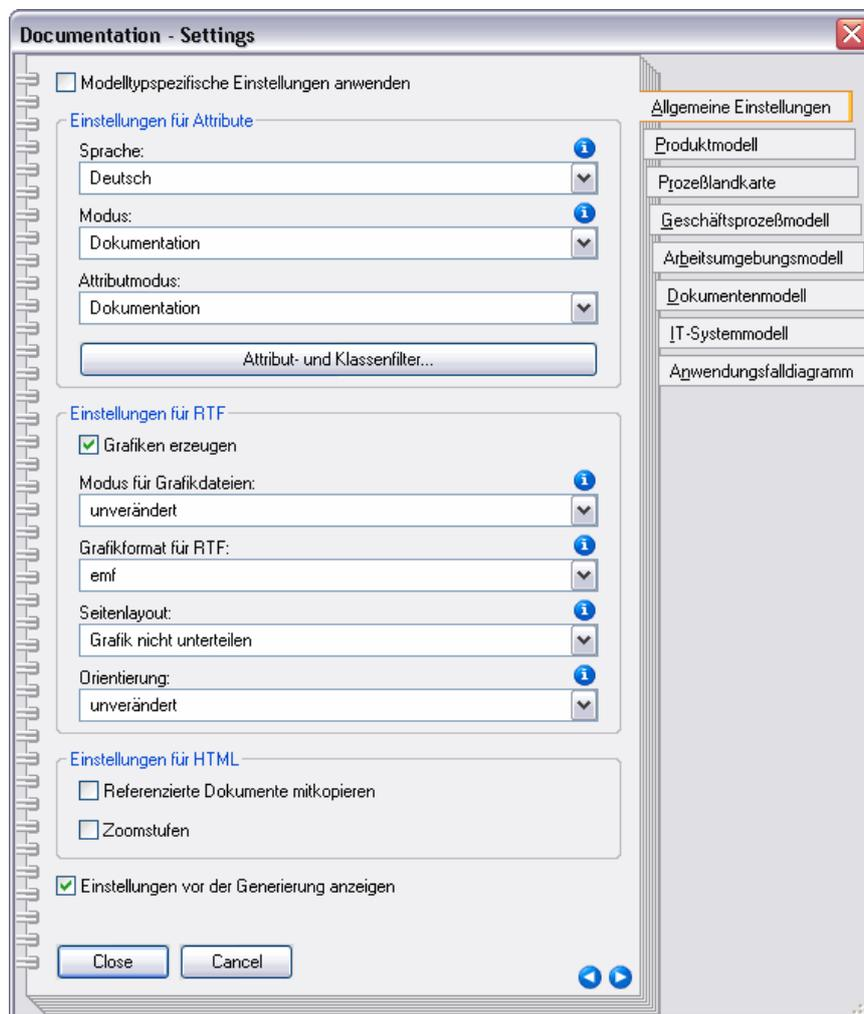

Figure 432: Documentation options of the ADOxx-Default-Library
Select the "Options" menu item from the "Documentation" menu to open the ADOxx Notebook in which the settings for the documentation can be made (see fig. 432).
**Hint:** The selection possibilities for settings which are available within the "Options - documentation" dialogue (see fig. 432) depend on the application library which you are using.
**ATTENTION:** If you deactivate the "Apply attribute and class filter settings" option, only the settings (see chap. 6.5.2, p. 488) defined in the "Documentation - settings" window (see fig. 432) will be applied.